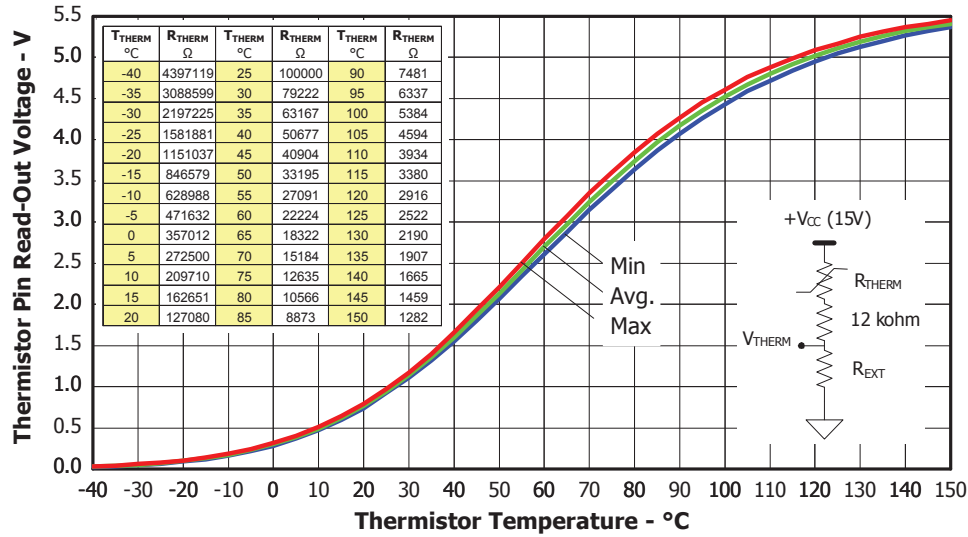

Figure 9. Thermistor Readout vs. Temperature (7.5kΩ pull-up resistor, 5V) and Nominal Thermistor Resistance values vs. Temperature Table.
3. Value of the boot-strap capacitors depends upon the switching frequency. Their selection should be made based on IR design tip DN 98-2a, application note AN-1044 or Figure 9. Bootstrap capacitor value must be selected to limit the power dissipation of the internal resistor in series with the V_{CC} . (see maximum ratings Table on page 3).